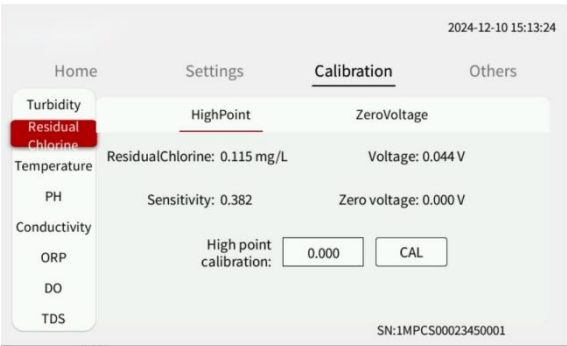

Fig.8 High Point Calibration Display
- 3) Repeat the step for 2 times, test for 3 times in total, and take the average value under the condition that the test values of the 3 times do not change much; if the change range is large, the possible reasons are as follows: ① the residual chlorine changes greatly, and test again after it is stable; ② there is an abnormal value, discard the test data, and take water again for testing;
4) Input the average value of the water sample measured by the handheld device into the high point edit box, and click calibration, as shown in Fig.8.